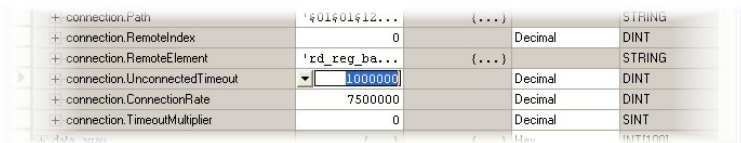

Figure 93: Reduce the UnconnecteTimeout Value
- Select the “Monitor Tags” tab. Expand the “connection” tag by clicking on the “+” sign next to the tag name. Scroll down to the connection.UnconnectedTimeout field and change its value from the default 30000000 (30s in 1uS increments) to 1000000 (1s). This value determines how long to wait before timing out and retransmitting a connection request if a connection failure occurs. Refer to Figure 93.